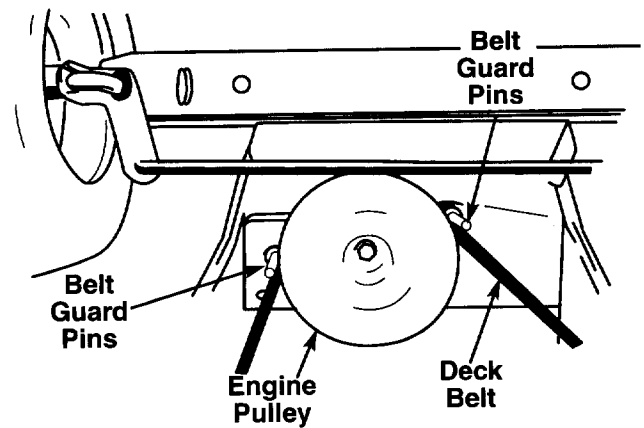

FIGURE 15.
2. Remove the two belt guard pins from the engine pulley belt guard. See figure 15.
NOTE: Make certain belt guard pins are reassembled as shown in figure 15.